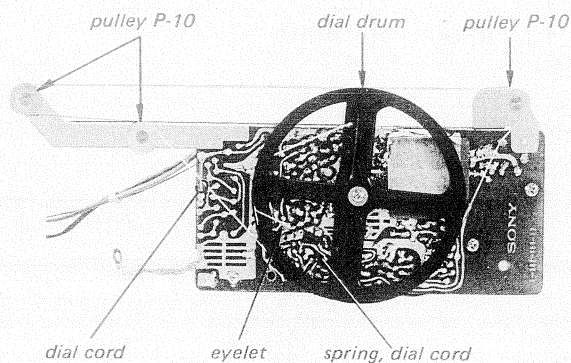

Fig. 2-4
1. Remove the circuit board as shown in Fig. 2-4.